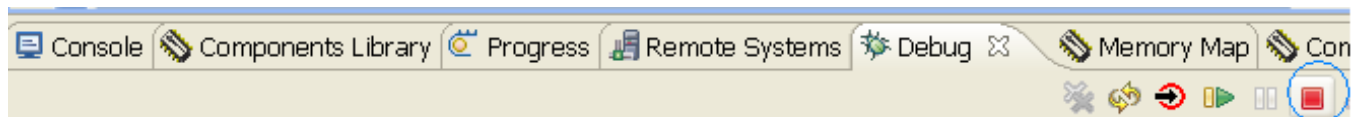

Figure 14. Stop debugger
2. After download, click on the red button in the debug box. Refer to Figure 14